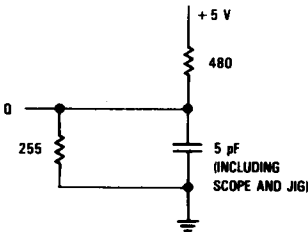

Figure 1B
2. Transition is measured ± 500 mV from steady-state voltage with load of Figure 1B.
2. Transition is measured ± 500 mV from steady-state voltage with load in Figure 1B.